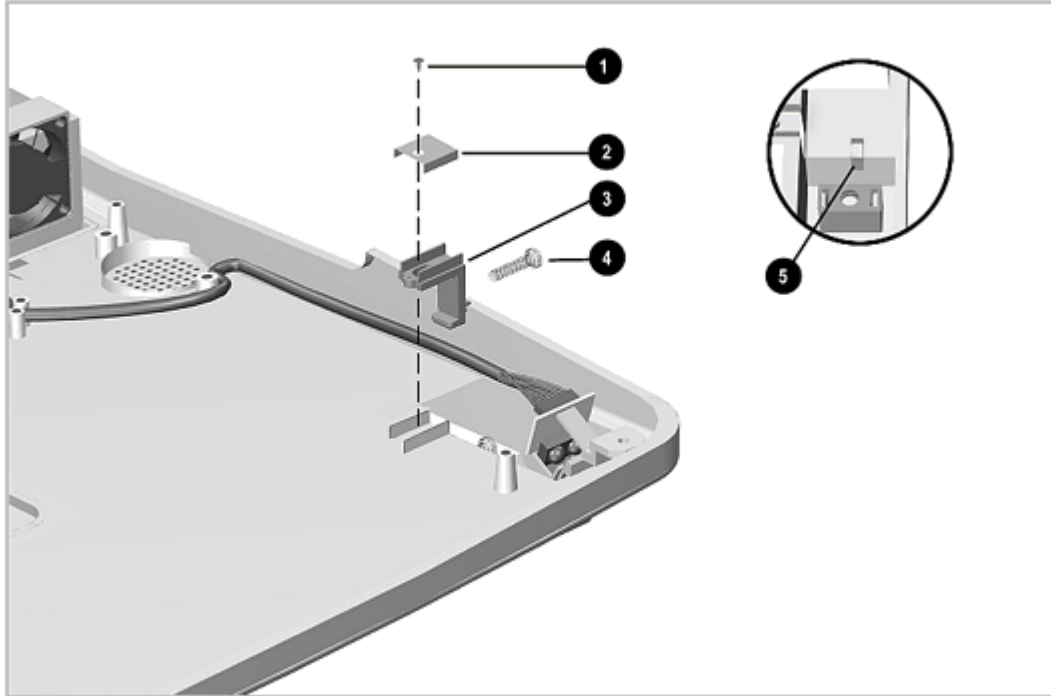

Figure 7-32. Removing the CPU Guide
3. Remove the guide screw (Figure 7-32).
4. Remove the CPU guide while guiding the spring out of its seat in the side panel of the expansion base (Figure 7-32).